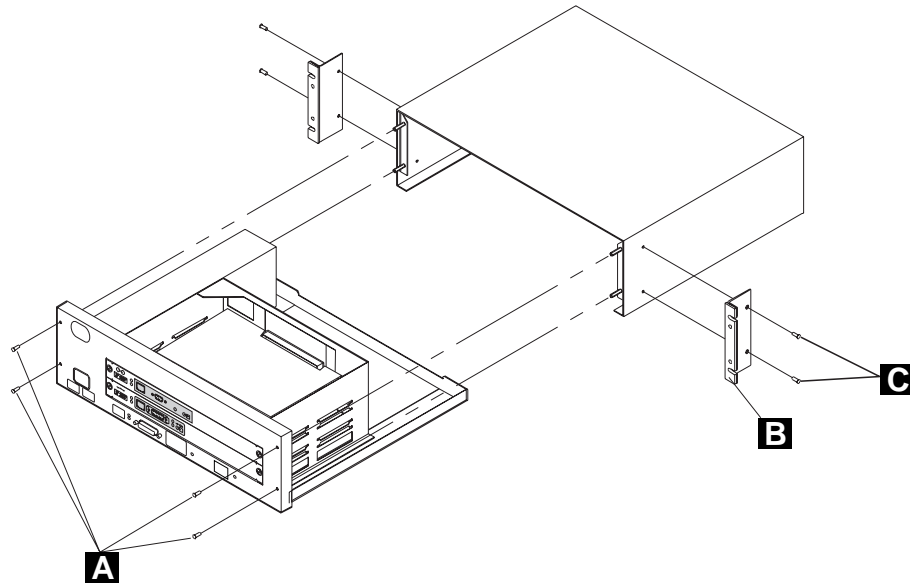

Figure 2-22. Placing the Ethernet Bridge in a Controller Expansion
- b. \_\_\_\_ Attach the rack-mounting brackets using the four short screws. See Figure 2-22.
- 2) \_\_\_\_ Remove the four retaining screws **A** on the front of the ethernet bridge. See Figure 2-22.
- g. \_\_\_\_ If you have removed the chassis (the inner power supply and planar board combination), slide it back into the cover and replace the four retaining screws, which you removed earlier. See Figure 2-22 on page 2-19.